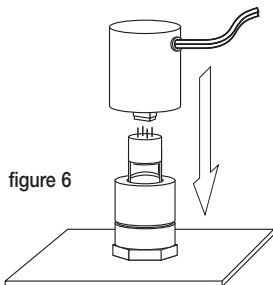

figure 6
9. Plug the ballast into the top of the **UV lamp** (See figure 6).